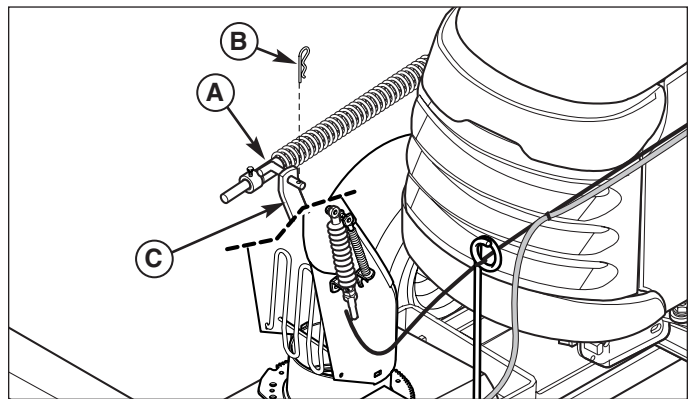

Figure 25. Lift Rod - Front
2. Attach the front of the lift rod assembly (A, Figure 25) to the lift arm (C). Secure with a hair pin clip (B).